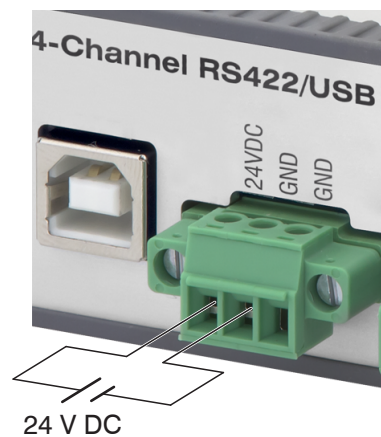

Fig. 8 Supply voltage connection
1) Power supply +24 V via power connection, see Fig. 8